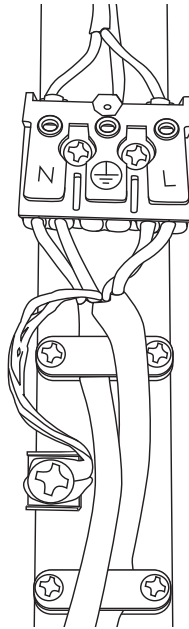

Fig. 3
4. Undo the three screws holding the lamp base to the post. Pull the light fitting and connection block out of the post and connect the electric cable to the terminals as shown in the diagram (see fig. 3). If the electric cable is too thick to fit two in one strain relief, use two strain reliefs with one cable in each. There are two earth terminals. If you are using a thin cable, you should use the earth terminal on the white connection block. If you are using a cable with a braided earth, you should use another earthing point such as the metal plate that the strain relief is attached to.